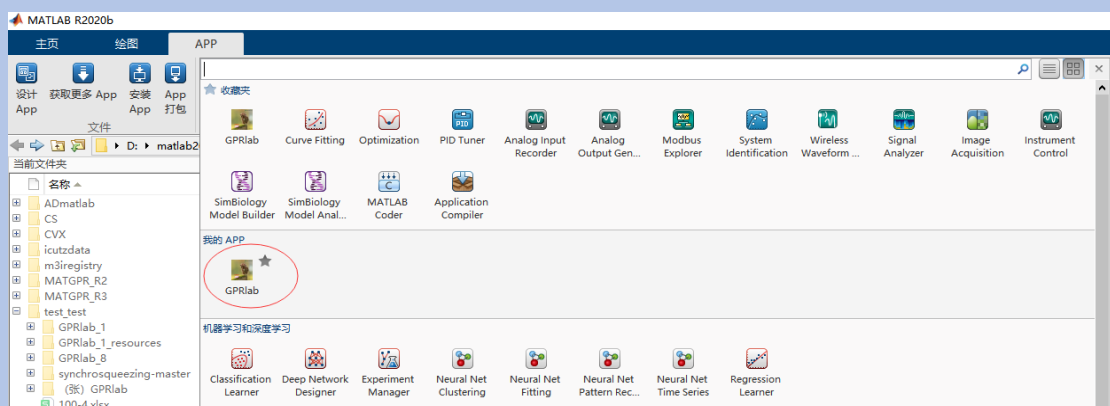

Figure 2.2 GPRlab installed in MATLAB
(3) After installation, GPRlab will appear as an app in your MATLAB (as shown in Figure 2.2), click to use it.